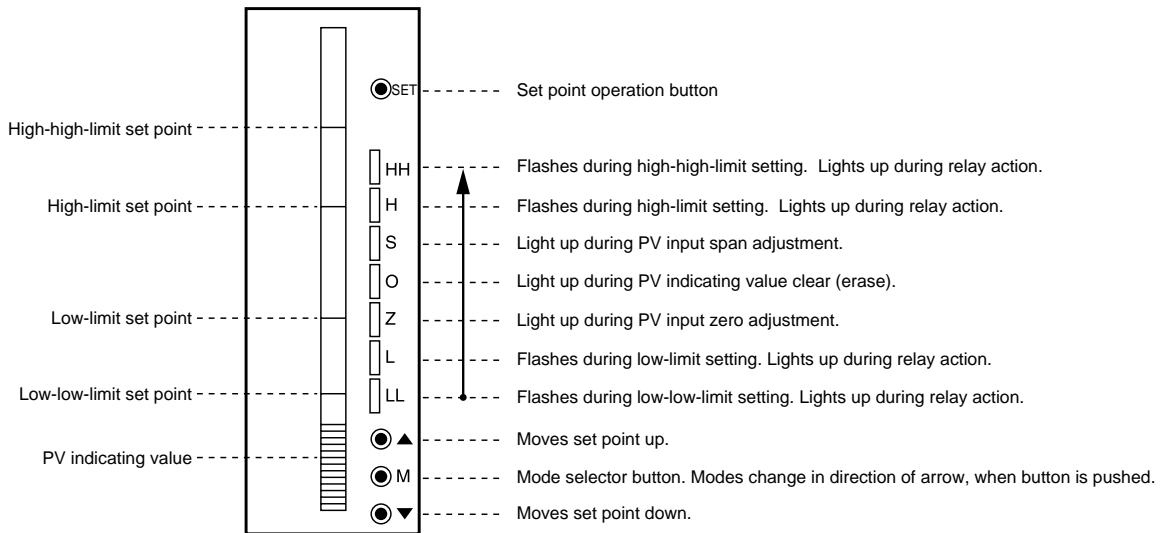

Fig.8
(1) Zero adjustment (See Fig.8)
(2) Span adjustment (See Fig.8)